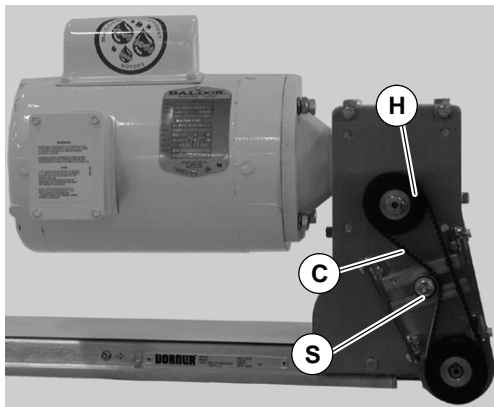

Figure 22
2. Loosen tensioner (S of Figure 22).
**NOTE:** If drive pulley (H of Figure 22) is replaced, wrap timing belt around drive pulley and complete step 3.